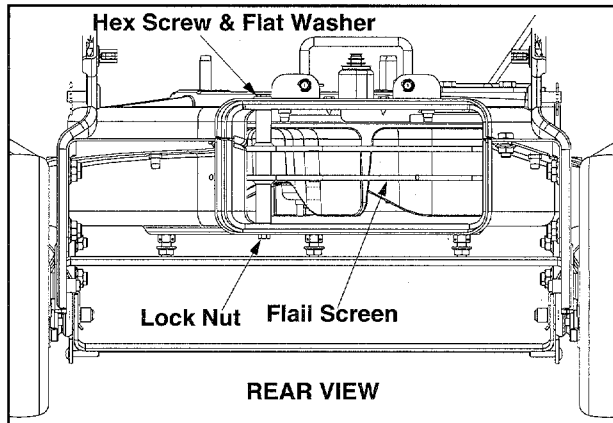

Figure 12
2. Remove the vacuum bag or blower chute from the unit as instructed in the OPERATION section to obtain access to flail screen. See Figure 12.
4. Remove hex screw and flat washer on top of rear housing near mounting bracket and the lock nut that secures flail screen. See Figure 12 and 14.
5. Remove lock nut that secures flail screen to the lower housing. The flail screen does not have to be removed. See Figure 12 and 14.